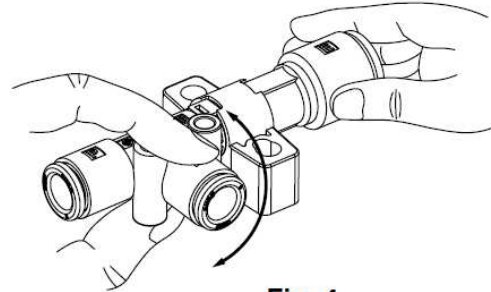

Fig. 4
(2) Adjust the adapter to rotate the vacuum (V) port (Fig. 4).